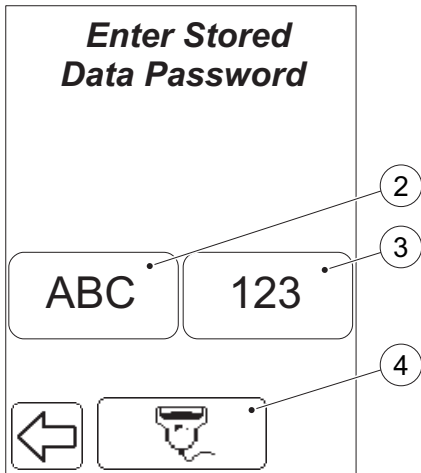
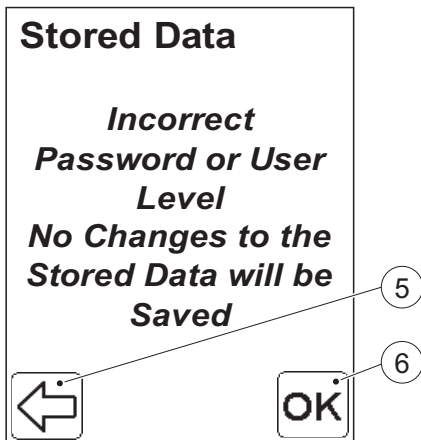
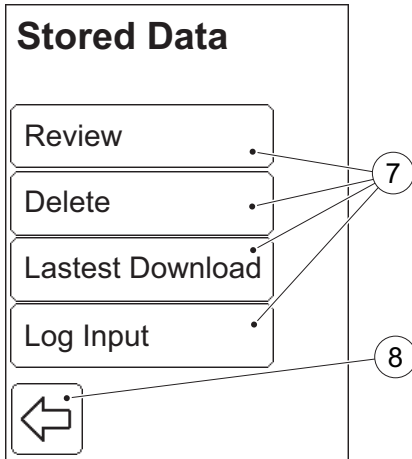

FIGURE 7-2
FIGURE 7-3
FIGURE 7-4
- a) In the Main Menu, press the Stored Data button (1).
- b) If the entry requirement for an Operator ID is set to "Not Used" (see 3 Settings), FIGURE 7-2 will be displayed, as this is a password protected function.
If the operator's user level does not permit access to the Stored Data (see FIGURE 3-22), FIGURE 7-3 will be displayed.
If the operator's user level permits access to the Stored Data, FIGURE 7-4 will be displayed.
- c) Enter the Password (default value is "0000") for protected functions, either directly on the Display via the Text mode (2) and Numeric mode (3) buttons, or with the Barcode Scanner via the Barcode Scanner button (4).
- d) If the incorrect password is entered, FIGURE 7-3 will be displayed. If the correct password is entered FIGURE 7-4 will be displayed.
- e) Pressing the Previous image button returns the user to FIGURE 7-2 and allows entry of the correct password. By pressing the Confirm button Stored Data can be viewed, but not changed. FIGURE 7-4 will be displayed.
When the Review button is pressed in the Stored Data menu (see FIGURE 7-4), the following options are displayed: